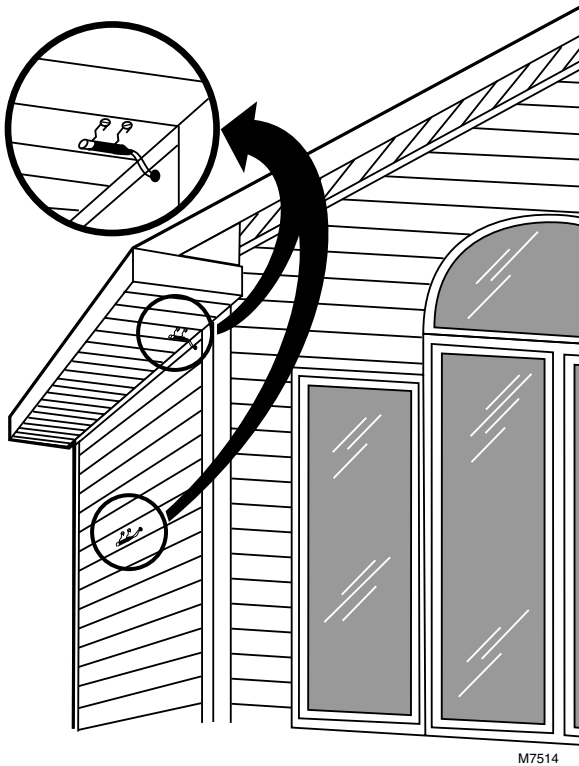

Fig. 27. Typical locations for C7089A Outdoor Sensor.
- Choose an outdoor location for the sensor where there is good air circulation at average outdoor temperature. See Fig. 27. Locate the sensor where it can measure the true outdoor ambient temperature: